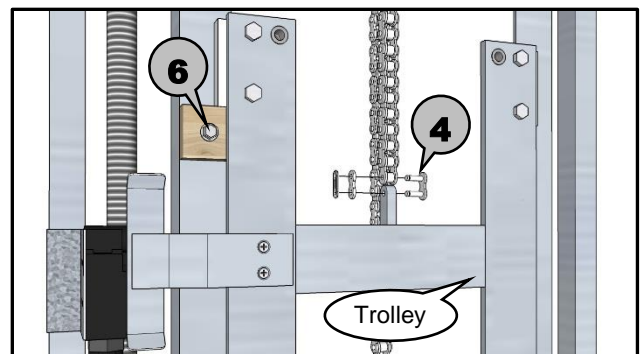

Figure 7
- 4** Use provided master link, attached near the top of the trolley with a plastic tie, to connect chain to top end of trolley. (see Figure 7)
- 6** Some machines will have a trolley stop screwed to the track for shipping purposes, and it should be removed at this time. (see Figure 7)